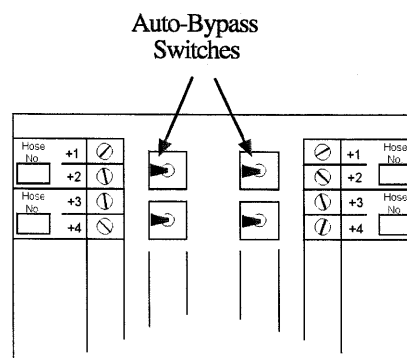

Figure 4-3 Location of Switches in the Data Distribution Box. The Auto/Bypass switches connect or disconnect a dispenser from the control system.
1. In the Data Distribution Box, set the Auto/Bypass switch for the dispenser to the Bypass position. See Figure 4-3